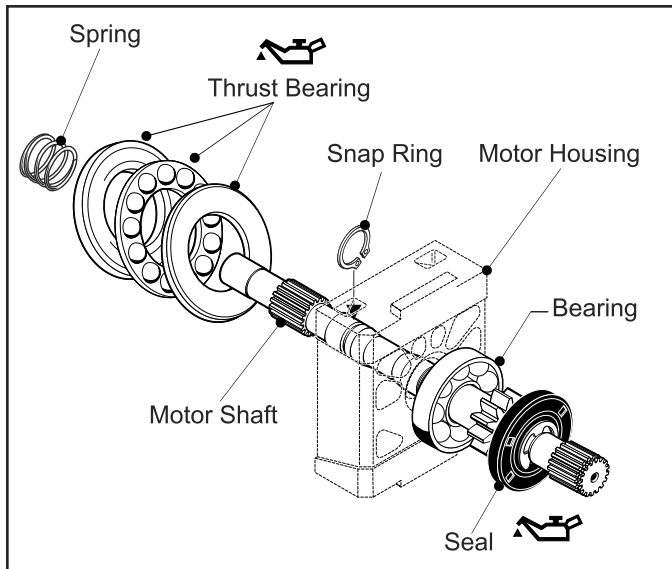

Fig. 26, Motor Shaft – Housing Assembly
- ◆ Comprising of (2) Thrust Plates and (1) Thrust Bearing, the Thrust Bearing Group should be oiled and placed into the Motor Housing. Starting with the “thin” Thrust Plate followed by the Thrust Bearing and finally, the “thick” Thrust Plate. (Fig. 26)
7. Install Motor Shaft Assembly through hole in Motor Housing. (Fig. 26)
8. Install Snap Ring and Spring onto Motor Shaft. (Fig. 26)